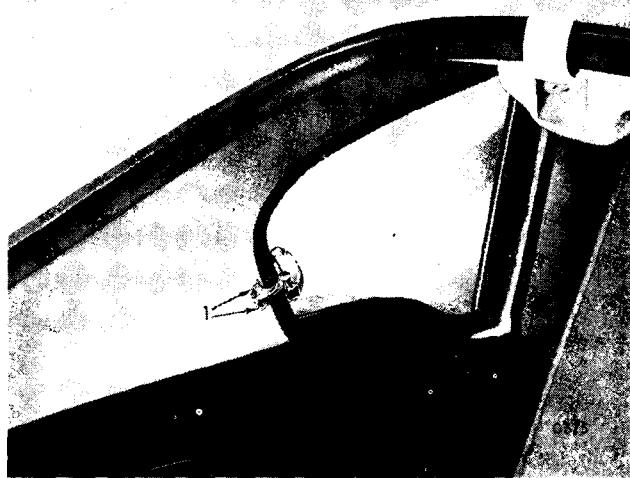

Fig. 36. Rear quarter-vent catch
- Remove two screws (1) (Fig. 36) in the rear quarter-vent catch, open out the vent and pull off the sealing rubber.